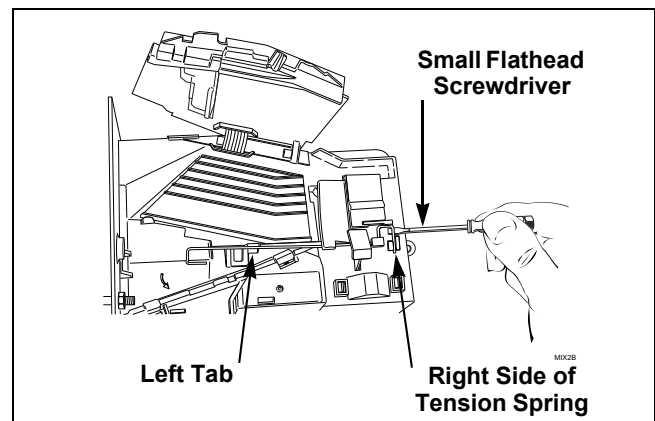

Figure 14
3. Place a small flathead screwdriver under right side of tension spring and lift up. Refer to *Figure 14*.
5. Lift spring over left tab. Refer to *Figure 14*.
7. Use screwdriver to remove spring from center tab. Refer to *Figure 14*.
14. Push spring to right until it snaps into position. Refer to *Figure 14*.